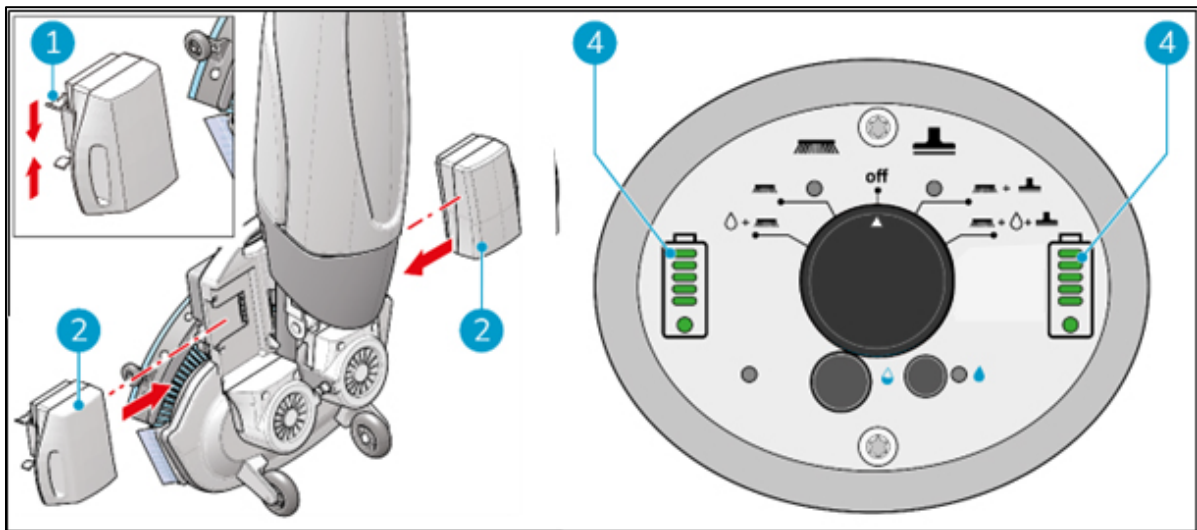

Figure 15
1. Push the blue coded battery (Figure 15, pos. 2) in the blue battery slot. A click indicates the battery is locked in place (Figure 15, pos. 1).
3. During operation, the battery indicators (Figure 15, pos. 4) on the control panel show the amount of power left.